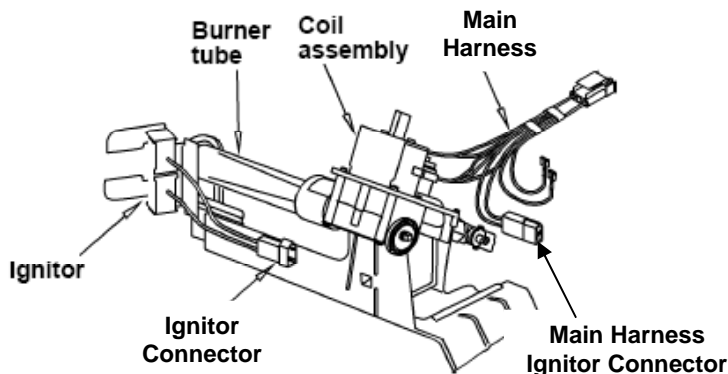

FIGURE 3
- Disconnect ignitor connector from the main harness ignitor connector. See *Figure 3*.
- Put the burner tube back on the burner assembly. Securely tighten the two (2) mounting screws. Reconnect the ignitor to the harness. See *Figure 3* and *4*.